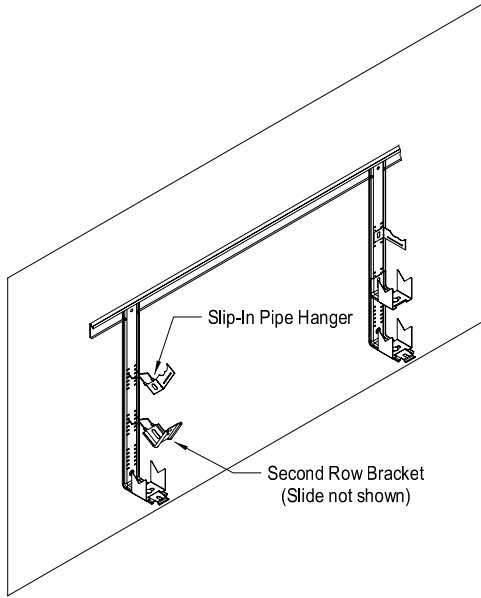

FIGURE W-5
- (5) Install any additional mounting brackets to the snap expansion bracket by slipping them into the slots provided on the snap expansion bracket. (Not all mounting brackets are available on all units.) (FIGURE W-5)